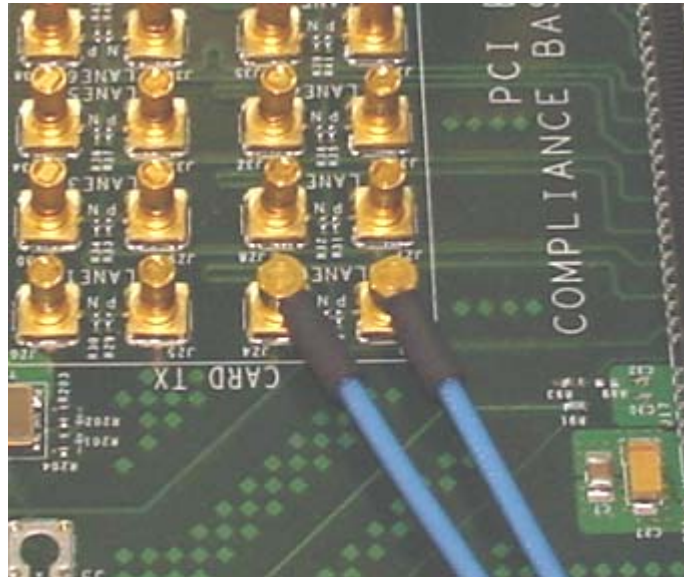

Figure 245 Compliance Base Board (CBB) 2.0 SMP Probing Option
- a Digital Storage Oscilloscope channel 1 to the D+ (where Lane 1 is under test in this example shown in Figure 245 above).
- b Digital Storage Oscilloscope channel 3 to the D- (where Lane 1 is under test in this example shown in Figure 245 above).